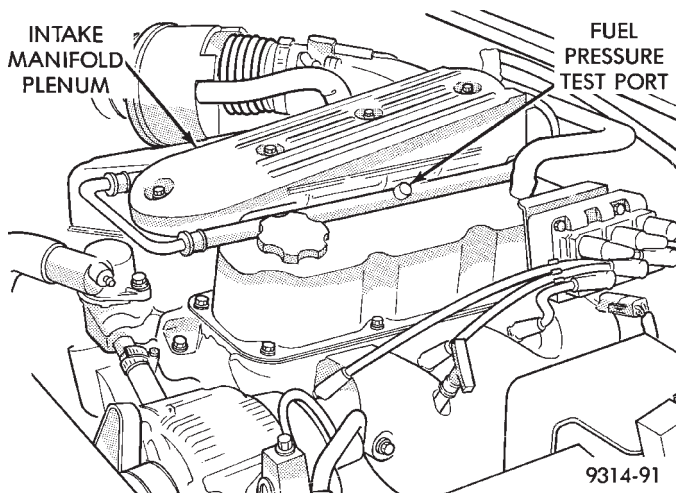
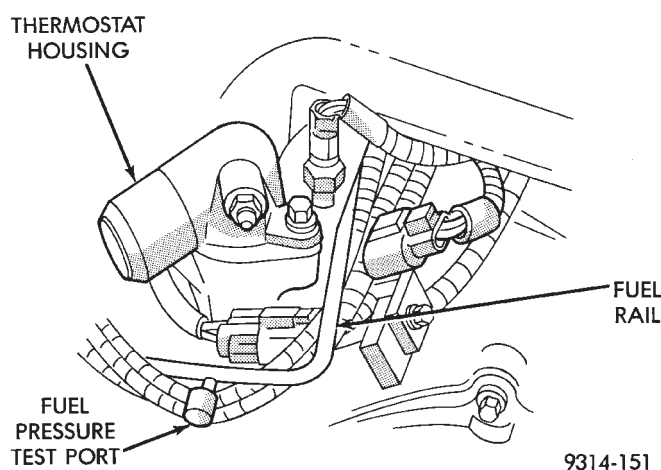

Fig. 15 Fuel Pressure Test Port—3.3L
Fig. 16 Fuel Pressure Test Port—3.5L
- (1) Disconnect negative cable from battery.
- (2) Remove fuel filler cap.
- (3) Remove the protective cap from the fuel pressure test port on the fuel rail (Fig. 15) or (Fig. 16).